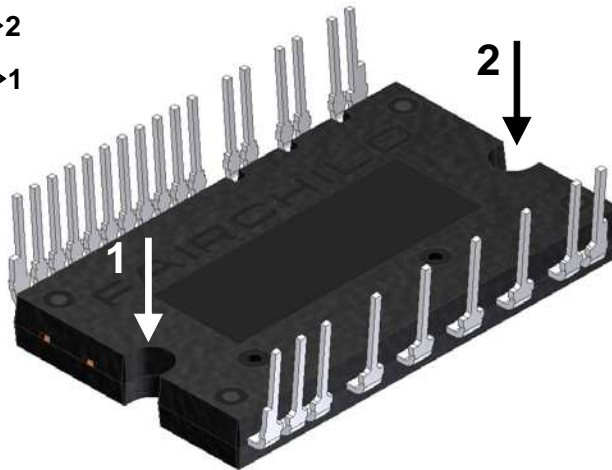

Figure 10. Mounting Screws Torque Order
- 13. Avoid one-sided tightening stress. Figure 10 shows the recommended torque order for mounting screws. Uneven mounting can cause the ceramic substrate of package to be damaged. The pre-screwing torque is set to 20 ~ 30% of maximum torque rating.